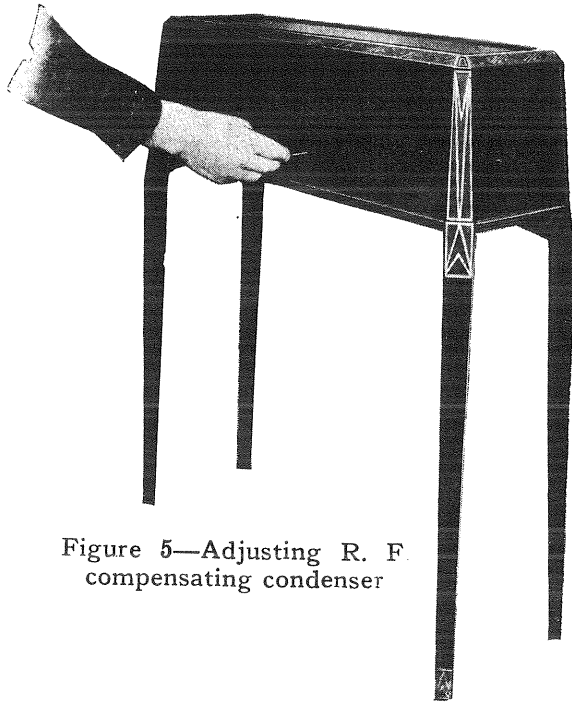

Figure 5—Adjusting R. F. compensating condenser
- (b) Locate the position of the compensating condenser adjusting screw at the rear of the receiver assembly. (See Figure 5.)